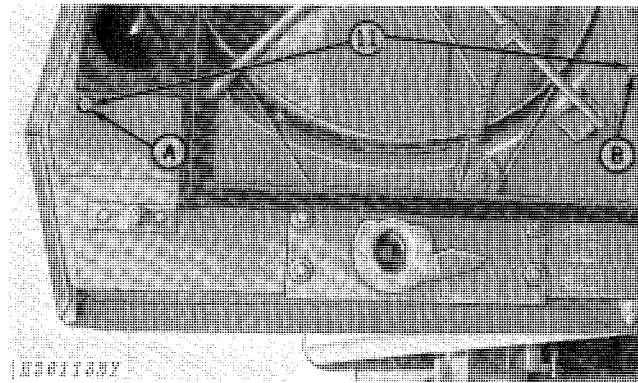

Fig. 29-Attaching Mud Fender (Inside)
11. Attach front fender brace to door at "A" with one 1/2 x 1-1/4-inch cap screw, one 33/64 x 7/8 x .048-inch washer, lock washer, and nut (Fig. 29). Attach rear fender brace to door at "B" with one 1/2 x 3-inch cap screw, one 33/64 x 7/8 x .048-inch washer, lock washer, and nut.